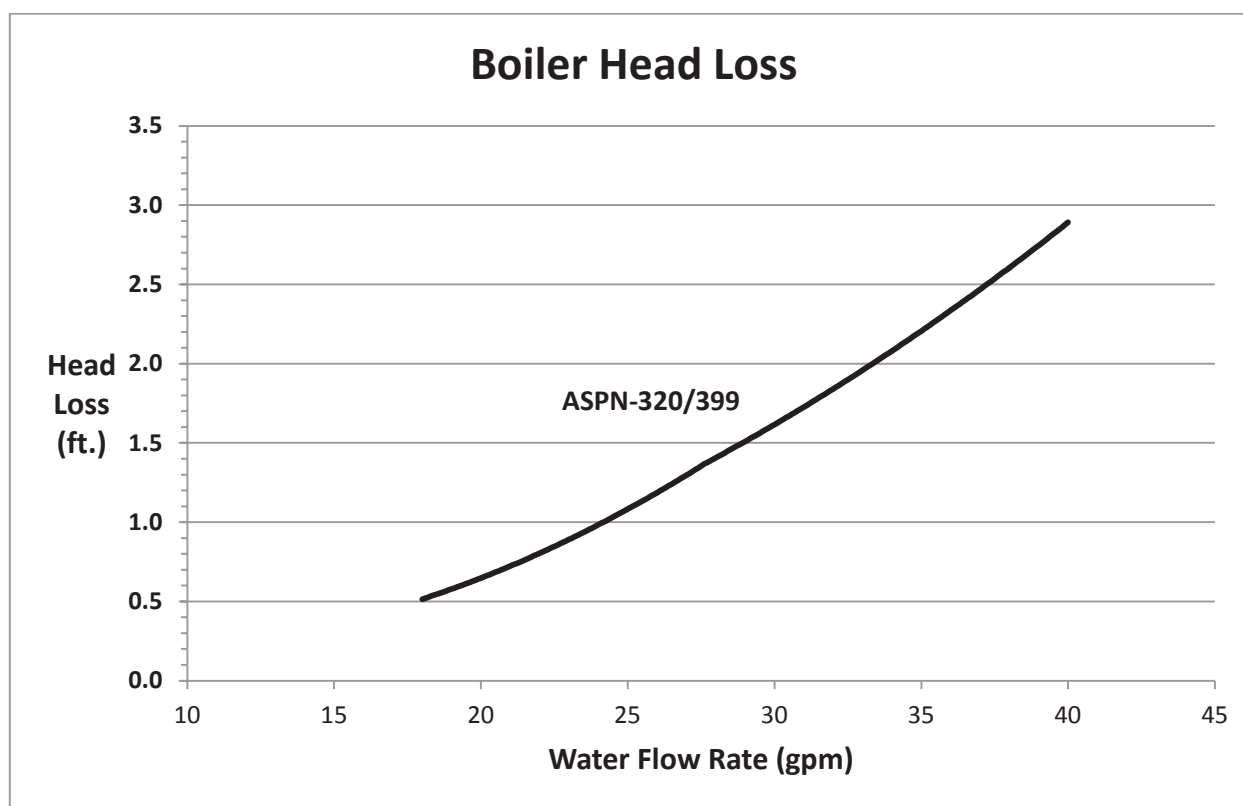

Figure 9.4: Boiler Head Loss
2. Boiler Loop Piping – Size boiler circulator to maintain flow requirements listed in Table 9.3. Boiler head loss is provided in Figure 9.4. Recommended circulators for 60 equivalent feet of boiler loop piping are listed in Table 9.5a and Table 9.5b.